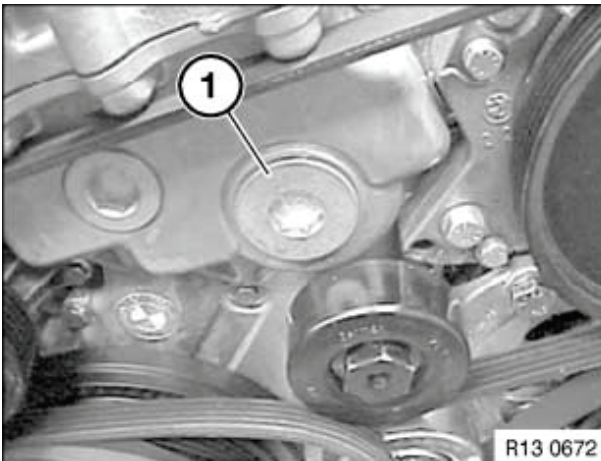

Figure 6-32
6. Install new O-ring on plug (**Figure 6-32, (1)**). Apply a light coat of oil to O-ring and install plug. Tighten to: